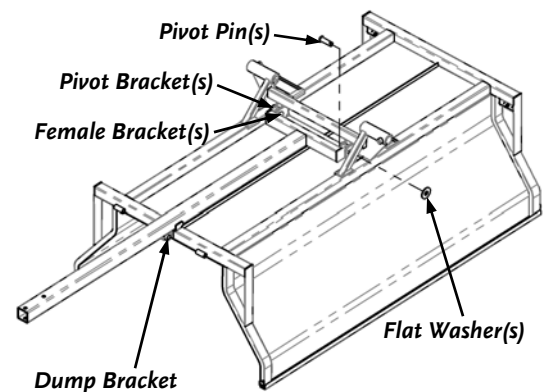

Figure 6
3. Lay the Tow Beam on the bottom of the Dump Bed with the Dump Bracket pointing down. Position the Pivot Brackets of the Tow Bar between the Female Brackets of the Bed Frame (**Figure 6**).
4. Insert a Pivot Pin from the inside through the Female Bracket and place a Flat Washer on the Pin from the outside (**Figure 6**). Repeat for the other side.